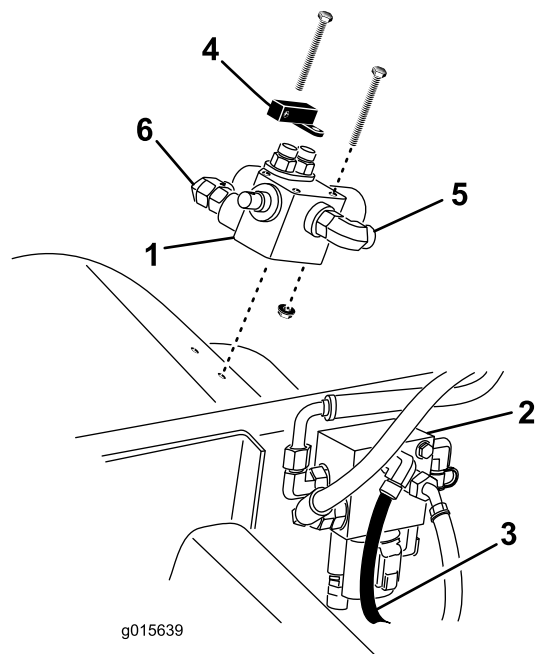

Figure 5
9. Mount the control valve and the pivot lever to the right fender with 3 bolts (1/4 x 2-3/4 inch) and 1/4 flange locknuts as shown in (Figure 5).
10. Place a drain pan under the lift manifold (Figure 5).
11. Disconnect the steering hose (Figure 5) from the upper side port of the lift manifold (the hose comes from the steering valve).
12. Connect the 30.5 cm (12 inch) hose to the disconnected steering hose and to the 90° fitting on the operator side of the control valve (Figure 5).
13. Connect the longer hydraulic hose with the straight fittings (included in kit), to the vacated port on the lift manifold and to the 90° fitting on the outer side of the control valve (Figure 5).